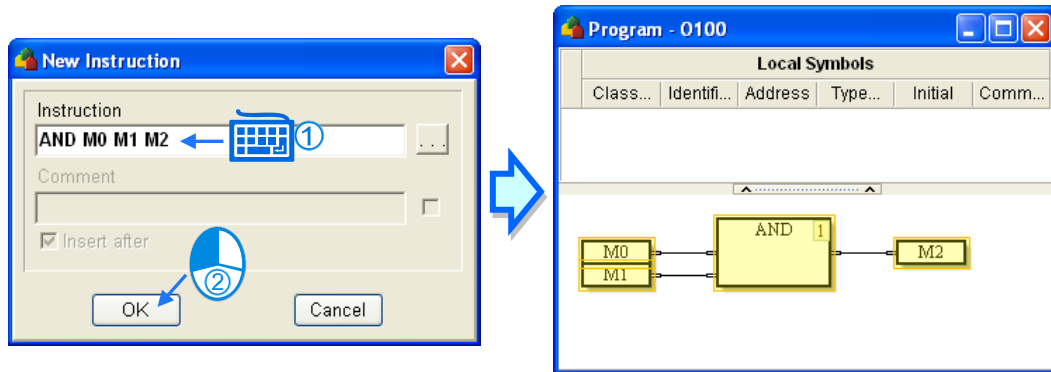

Figure 12-12 Inserting an object
- When the users type an instruction, the **New Instruction** window appears. After the users type an instruction in the **Instruction** box, they have to press Enter on the keyboard, or click **OK** in the **New Instruction** window. If the users move the mouse cursor and click a position in the program editing area, the instruction will be inserted. (The instructions that the users type is case-insensitive. If the users type an incorrect applied instruction, or an incorrect device name, an error message will appear after they click **OK**.) Please see figure 12-12.